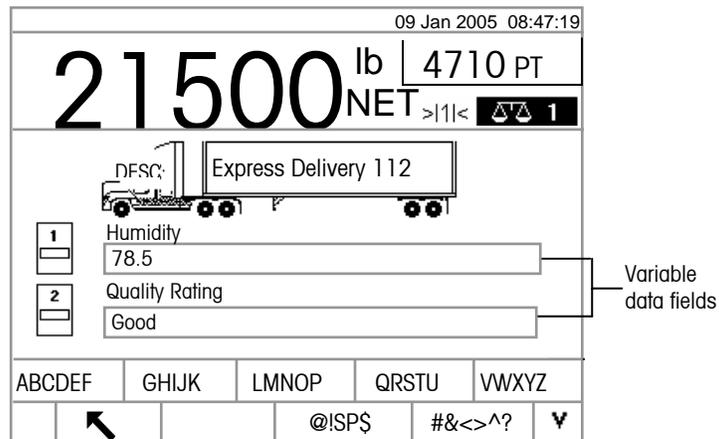

Figure 2-14: Variable Data Entry Screen
- If variable data entry has been enabled, variable data fields display. Variable data field names are enabled in the application setup. For example, in Figure 2-14 humidity is enabled as Variable 1 and quality is enabled as Variable 2. Use the alpha keys and the numeric keypad to enter variable data.